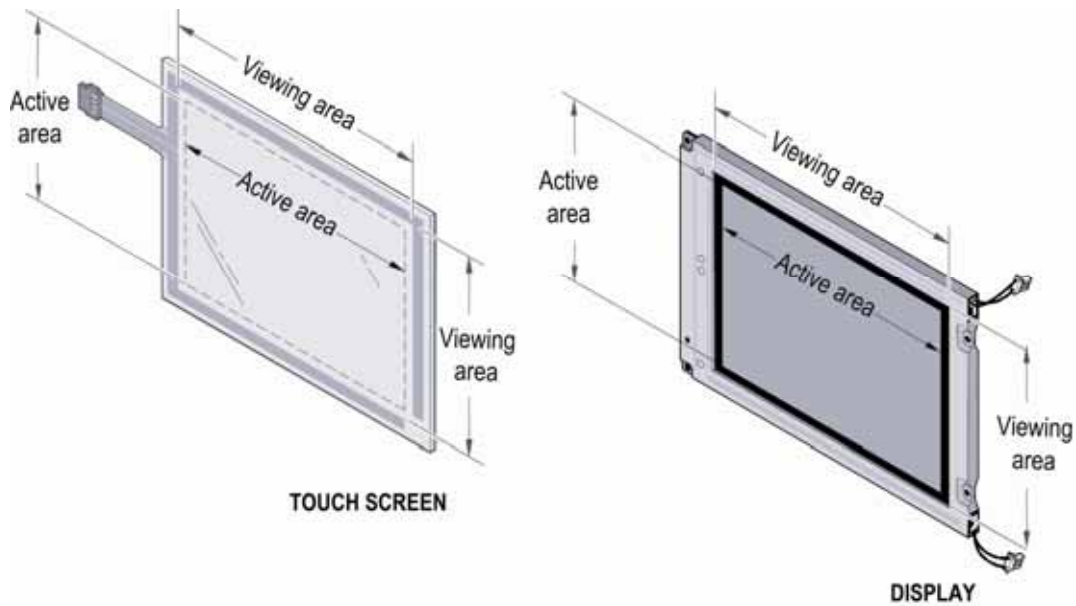

Figure 2: Active Area and Viewing Area of Touch Screen and Display
- The active area of the touch screen should match the ‘active area’ of the display (Figure 2). The ‘active area’ of the display is the surface over which there are display pixels.
- The viewing area of the touch screen should be at least as large as the viewing area of the display (Figure 2).